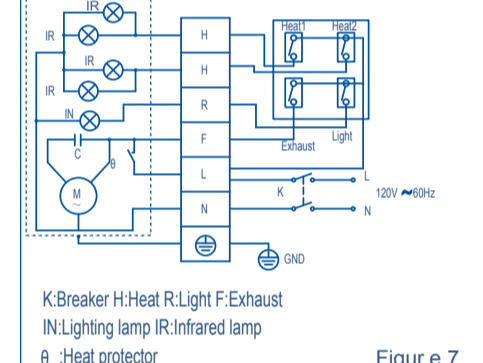

Figure 7
2. Make wire connections with the terminal block as figure 7.
3. Connect the other end of interconnecting wire with the switch panel (Figure 7).